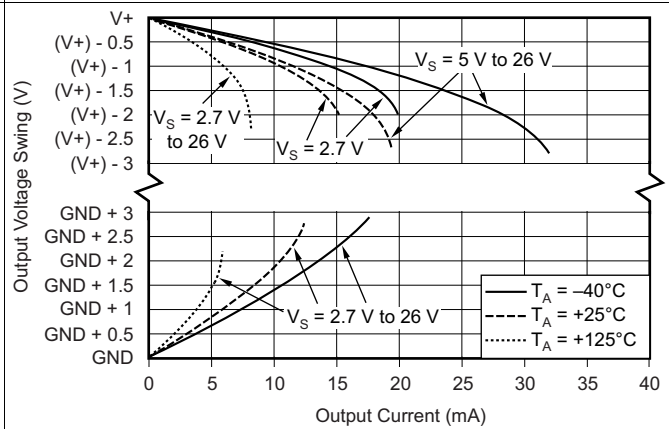

图 10. Output Voltage Swing vs Output Current
(3) See Figure 10 in the *Typical Characteristics* section.